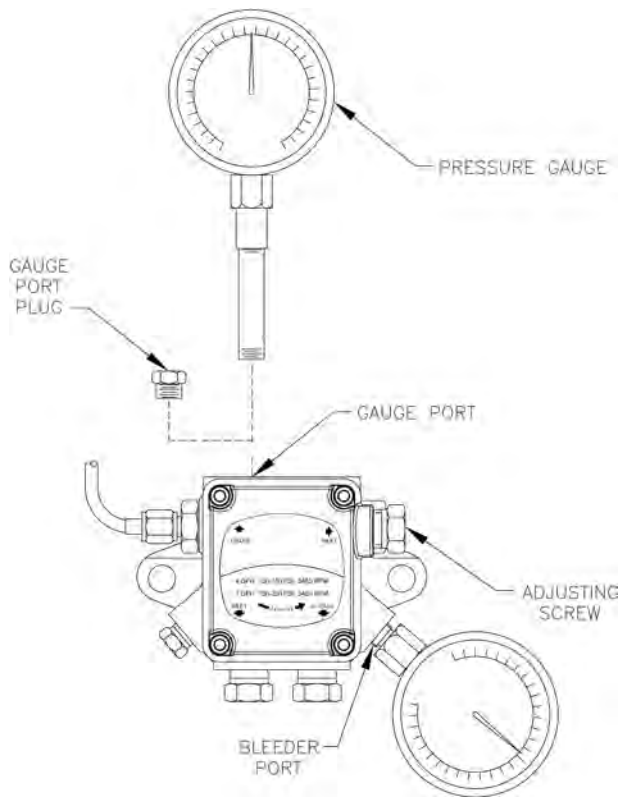

Figure 26A: Adjusting Fuel Pump Pressure
- b. When checking a fuel pump's operating pressure, a reliable pressure gauge may be installed in either the gauge port or the bleeder port. See Figure 26A.